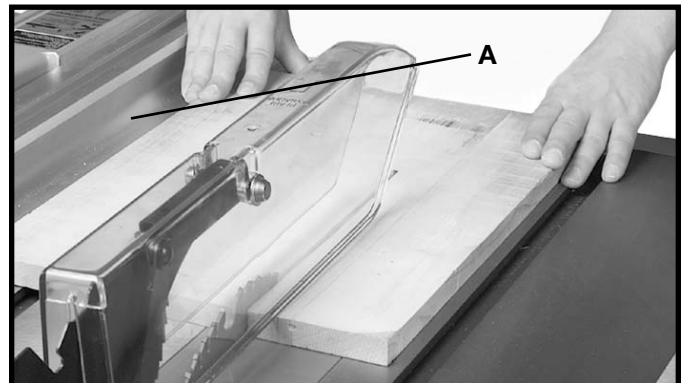

Fig. 78
Ripping is the operation of making a lengthwise cut through a board, as shown in Fig. 78, and the rip fence (A) is used to position and guide the work. One edge of the work rides against the rip fence while the flat side of the board rests on the table. Since the work is pushed along the fence, it must have a straight edge and make solid contact with the table. The saw blade guard must be used. On Delta saws, the guard has anti-kickback fingers to prevent kickback and a splitter to prevent the saw kerf from closing and binding the blade.
Never stand in the line of the saw cut when ripping. Hold the work with both hands and push it along the fence and into the saw blade as shown in Fig. 78. The work can then be fed through the saw blade with one or two hands. After the work is beyond the saw blade and anti-kickback fingers, the hand is removed from the work. When this is done the work will either stay on the table, tilt up slightly and be caught by the end of the rear guard or slide off the table to the floor. Alternately, the feed can continue to the end of the table, after which the work is lifted and brought along the outside edge of the fence. The cut-off stock remains on the table and is not touched with the hands until the saw blade is stopped, unless it is a large piece allowing safe removal. When ripping boards longer than three feet, it is recommended that a work support be used at the rear of the saw to keep the workpiece from falling off the saw table.